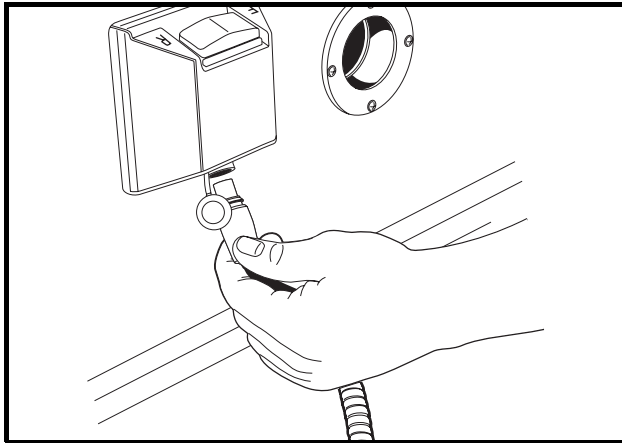

Figure 18-1 Connector Under Forward/Reverse Switch
3. Find the IQDM jack on the vehicle. **(Figure 18-1)**